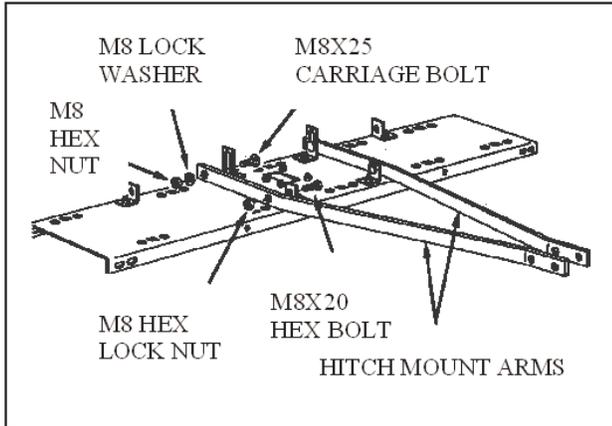

FIGURE 3
5. Fasten the hitch mount arms to the outside of the angle brackets at the front of the tine shield. Use two M8x20 hex bolts and M8 hex lock nuts. Tighten and then loosen the nuts slightly. See figure 3.
6. Fasten the hitch mount arms to the outside of the hitch arm mount brackets at the rear of the tine shield. Use two M8x25 carriage bolts, M8 lock washers and M8 hex nuts. Do not tighten yet. See figure 3